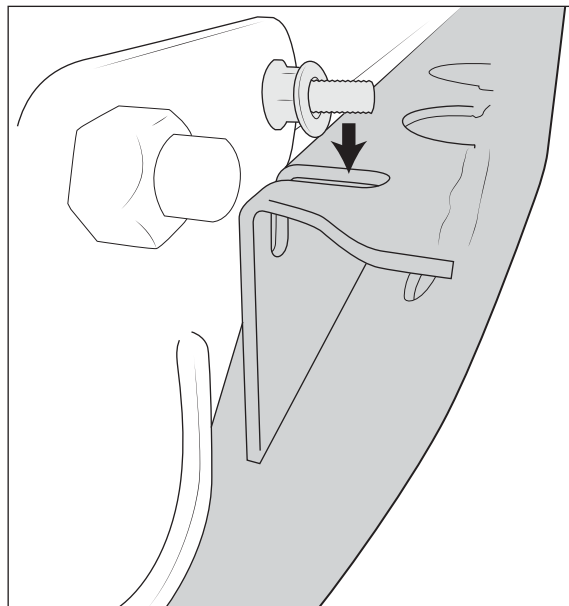

Figure 15
- D. Lift front of skidplate so M12x55mm bolts in front cross-member pass through slots in skidplate bracket. Loosely install M12 flange nuts onto both bolts to hold skidplate up (fig. 15).